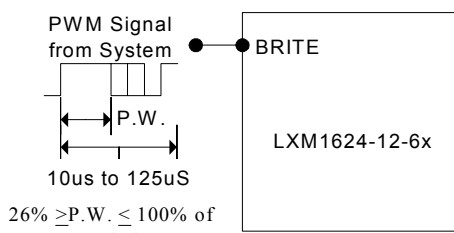

Figure 1A – PWM Brightness Control
- The brightness control may be a voltage output DAC or other voltage source, a digital pot or 20K manual pot. The inverter contains an internal 10K pull-up to 3V to bias the pot, add a 1.8K to 3.9K resistor to set the lower threshold voltage. A 3.3V Logic Level PWM signal from a micro-controller may also be used as shown in Figure 1A.